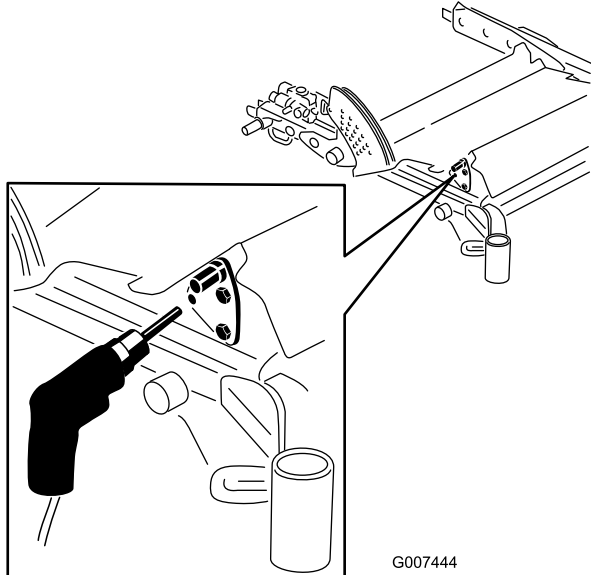

Figure 3
4. Using the remaining hole in the pedal shaft as a template, locate, mark and drill a 5/16 diameter hole in the side of the foot rest (Figure 3).